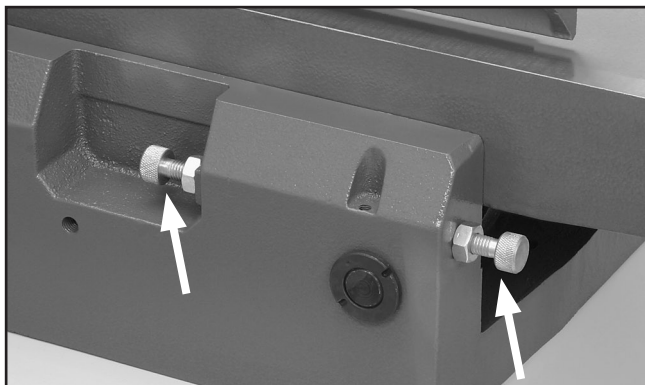

Figure 51. Outfeed table positive stop bolts.
3. Loosen the outfeed table lock located at the front of the machine, and loosen the jam nuts and positive stop bolts located at the back of the machine (see **Figure 51**).
4. Loosen the outfeed table lock located at the front of the machine, and loosen the jam nuts and positive stop bolts located at the back of the machine (see **Figure 51**).
- Tighten the outfeed table lock located at the front of the machine, and tighten the positive stop bolts and jam nuts located at the back of the machine (see **Figure 51**).